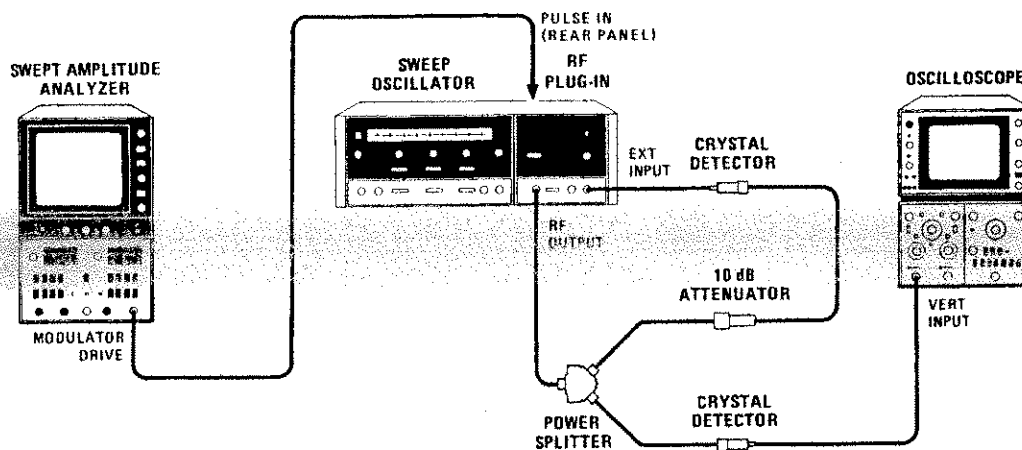

Figure 5-10. Sample and Hold Adjustment Test Setup (External Leveling Only)
- a. Connect equipment as shown in Figure 5-10 without connecting MODULATOR DRIVE.